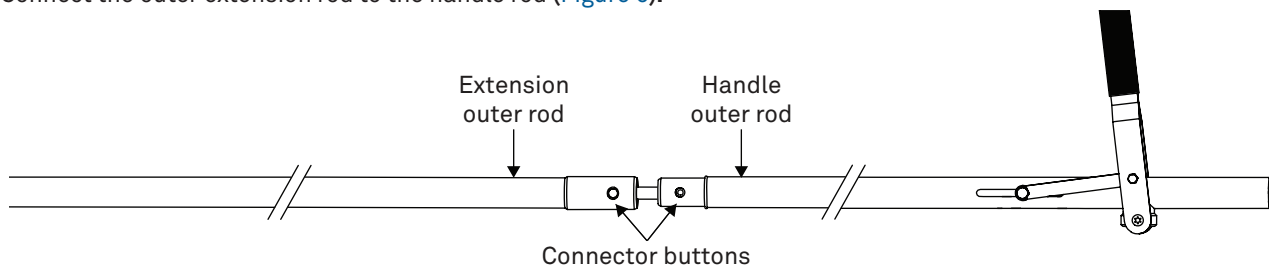

Figure 6 Connect outer extension rod to outer handle rod
4. Connect the outer extension rod to the handle rod (Figure 6).